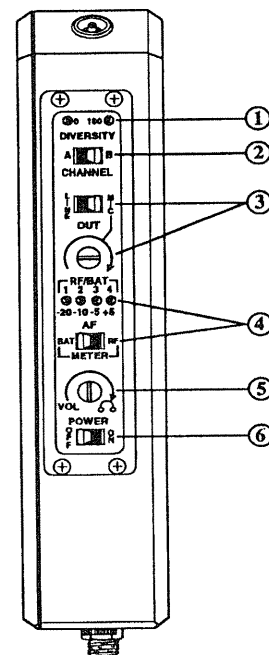

Figure 1
Controls .....	See Figures 1 and 2
### Control Panel (See Figure 1)
**Controls:** Refer to Figures 1 and 2.